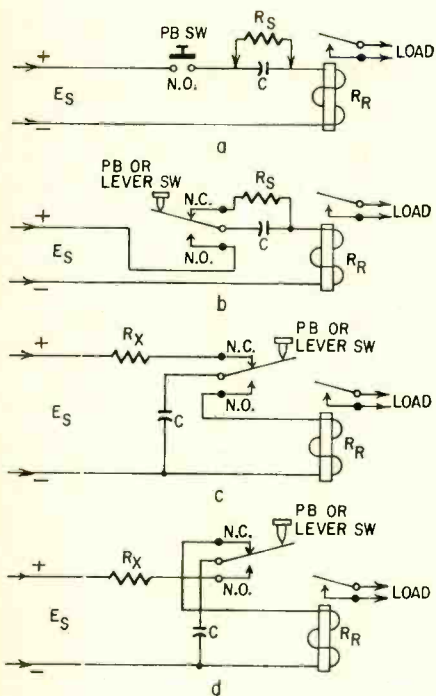

Fig. 1—Four "momentary" circuits: relay holds in only for a certain time, regardless of how long circuit is closed.
In a wide variety of control circuits, the controlled circuit should be closed (or open) for a short fixed time no matter how much longer the control switch is closed. For this purpose, the *relay limiter* is ideal. Four conventional limiter circuits are shown in Fig. 1. All depend for their operation on the rate of charge of a capacitor through a resistance (the relay coil).
When the switch is closed in Fig. 1-a, current flowing into the empty capacitor energizes the relay coil and magnetic circuit, pulling down the armature. As the charge on the capacitor gradually increases, the voltage across the coil decreases. When the voltage across the coil falls to the dropout value of the relay, the armature releases, and nothing more happens, no matter how long the circuit remains closed.
With the circuit in Fig. 1-a, the time lapse between operations must be very long, so that the charge on the capacitor can leak away. This could be several days with high-grade capacitors. We can speed up by shunting the capacitor with a resistor, R_x , of a relatively high value (10 or more times R_r). This still introduces a considerable delay between operations—usually 10 or more times the duration of the contact closure. For more rapid recycling, use the circuit shown in Fig. 1-b.
Equally useful is the *shunt limiter*, one form of which is shown in Fig. 1-c. Here, the capacitor charges from the line through a small resistor, R_x , which limits inflow current. When the switch is pressed, the charged capacitor is shunted across the relay coil, and the stored charge operates the relay until the voltage across the capacitor falls to the dropout value of the relay. As this point, the relay contacts open, and no further relay action takes place no matter how long the switch remains depressed. Time of contact closure is shown by formulas (1) and (2).
A similar circuit, which actuates the relay only when the switch has been depressed and released, is shown in Fig. 1-d. This circuit is particularly useful in systems incorporating indirect-action stepping switches, where the contacting arm is not stopped until the driving circuit is interrupted.